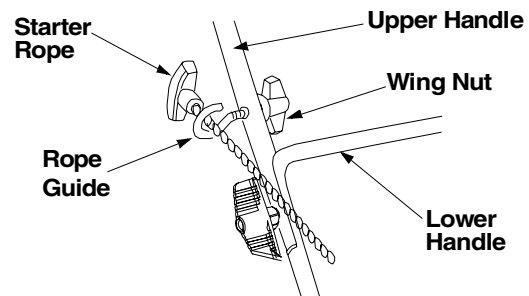

Figure 5
- If not already attached to the upper handle, insert rope guide into the first hole on the upper handle as indicated in Figure 5. Secure the rope guide to handle with wing nut, but do not tighten.